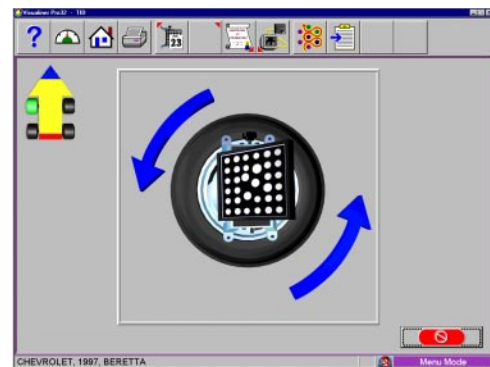

Figure 3-45
6. Once the system acquires the target an arrow indicates the direction to rotate the target/wheel. The initial rotation is 25° forward. (Figure 3-45)